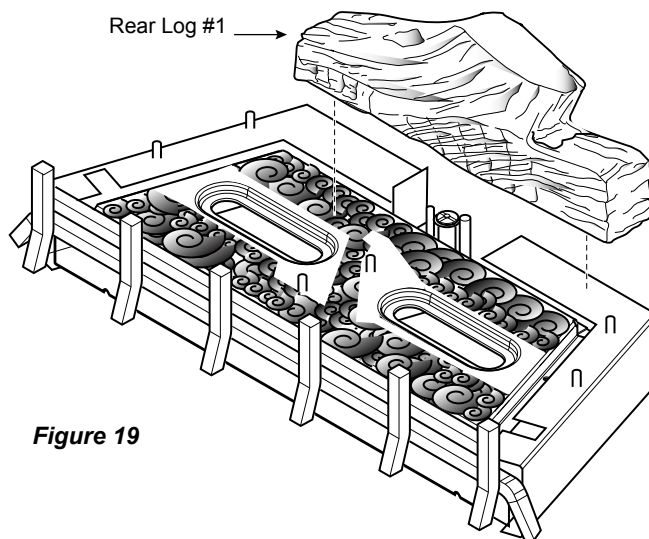

**Figure 19**
4. Place rear log #1 against back of firebox. *Figure 19*